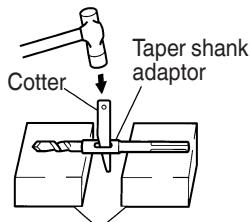

Fig. 15
- (2) Turn the power on and drill a base hole.
(3) After cleaning out dust with a syringe, attach the plug to the anchor tip and drive in the anchor with a manual hammer.
(4) To remove the drill bit with taper shank, insert a cotter into the slot of the taper shank adaptor, place supports under the Rotary Hammer and tap the cotter with a manual hammer. (Fig. 15)